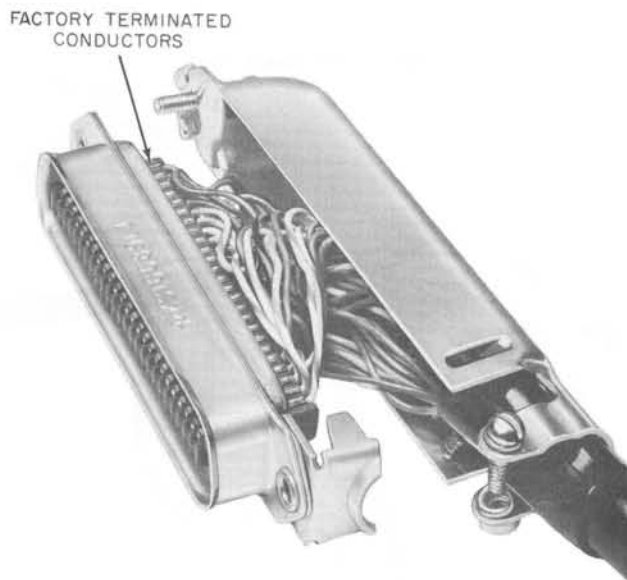
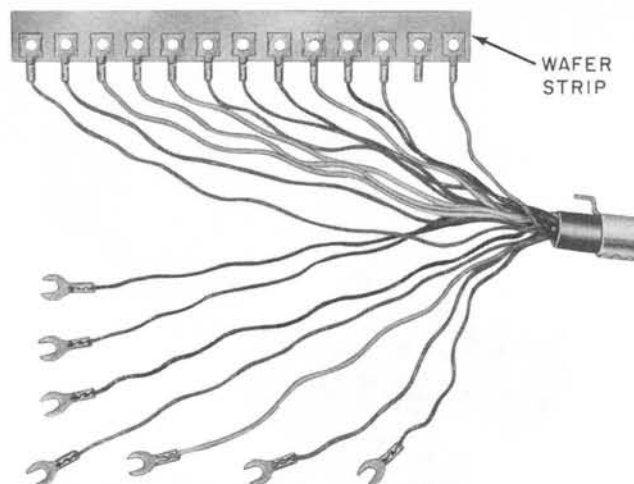
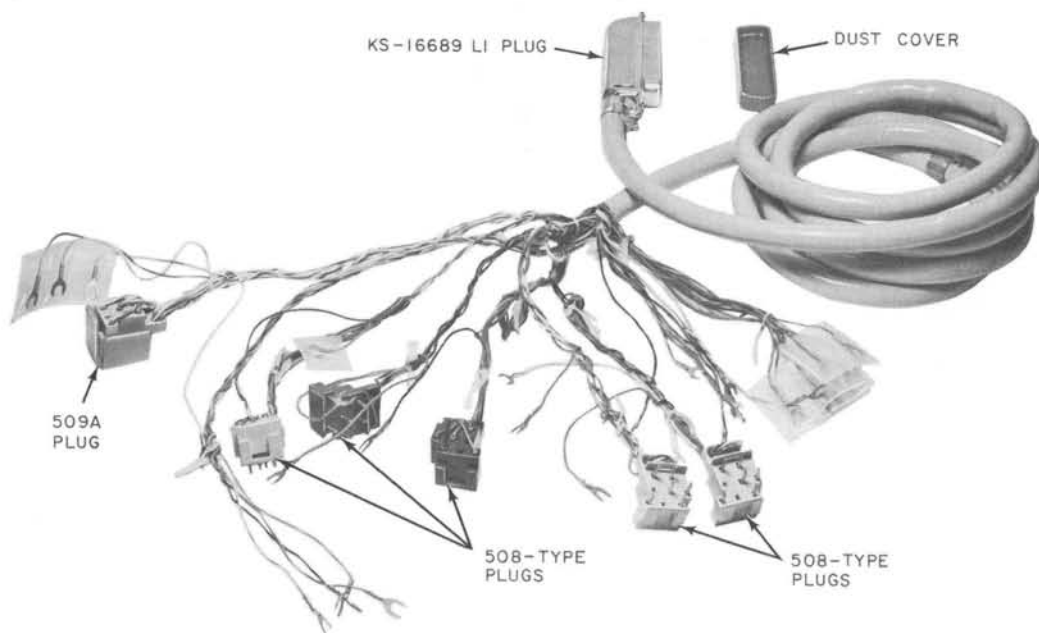

Fig. 8—KS-16689L1 Plug
Fig. 13—Nonslotted Wafer Strip End of Mounting Cord, Early Type
Fig. 16—Mounting Cord Equipped With 508- and 509A-Type Plugs
2.13 Mounting cords used on key sets and other station equipment requiring a large number of conductors are equipped with KS-type plugs (Fig. 8, 9, and 10). These cords provide a quick means of electrically connecting conductors to a connector cable or terminals equipped with a connector to receive these plugs. Screws secure these plugs to the connector. For shipment these plugs are covered with a nonreturnable dust cover.
2.15 Since most cords have tinsel or stranded wire conductors, the conductor ends are equipped with spade tip connectors or terminal strips (wafer strips Fig. 13, 14, and 15). Sets equipped with 635-type keys require cords equipped with 508- and 509A-type plugs (Fig. 16). These plugs have certain conductors factory terminated in blade type cord tips which are arranged in a molded plastic terminal plug. Multiconductor cords have quick connection KS-type plugs at the cable or terminal end (Fig. 8, 9, and 10). The quick connect KS-type plugs have factory-wired connectors. Rearrangement of the conductor sequence is not recommended.